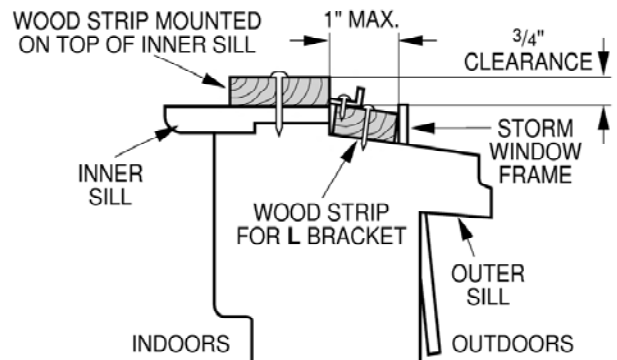

Figure 3
2. If storm window presents interference, fasten a 2" wide wood strip to the inner window sill across the full width of the sill. The wood strip should be thick enough to raise the height of the window sill so that the unit can be installed without interference by the storm window frame. See Figure. 3. Top of wood strip should be approximately 3/4" higher than the storm window frame (STORM WINDOW FRAME) or wood strip (OUTDOORS) to help condensation to drain properly to the outside.
3. Install a second wood strip (approximately 6" long by 1 1/2" wide and same thickness as first strip) in the center of the outer sill flush against the back off the inner sill. This will raise the L bracket as shown Figure. 3.